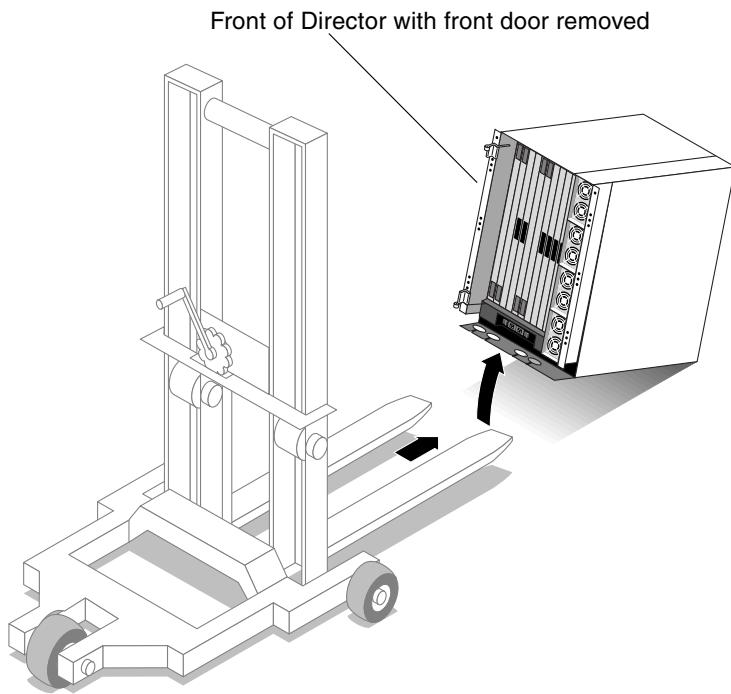

FIGURE 4-10 Placing the Director on the Hand Truck
3. Use four people to pivot the director on its back edge and slide the hand truck forks under the director to support it. See FIGURE 4-10.